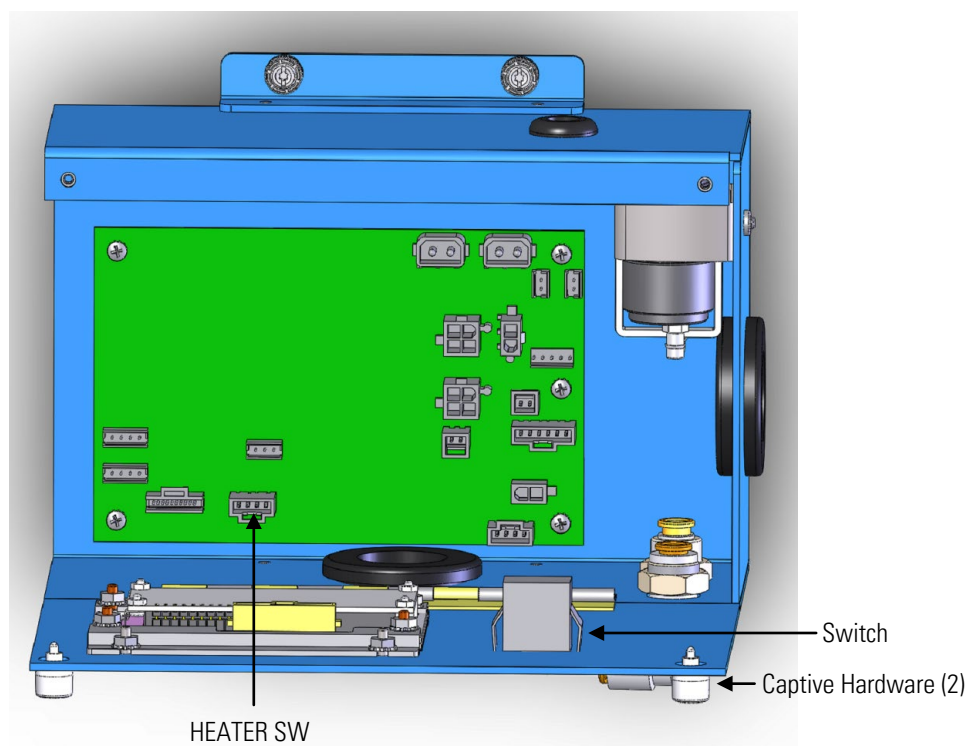

Figure 5–8. Replacing the Heater Switch Assembly
6. Snap the new replacement switch into cover housing (see Figure 5–9). Make sure the 1 is facing left and the 0 is facing right. Refer to the “ISO” view in Figure 5–9.